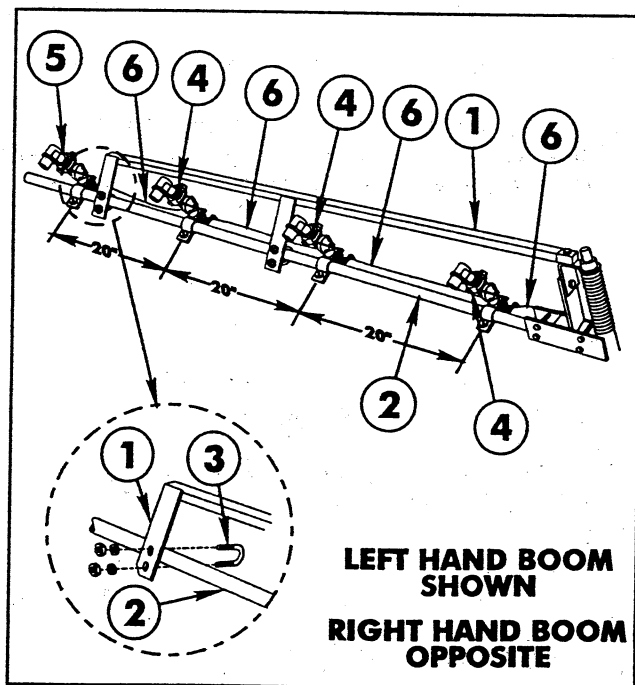

FIG. 23
14. Secure the two plates of the Boom Support Assembly to the Extension Boom Pipe, using two (2) 1/4" U-bolts, four (4) lock nuts and flat washers. See FIG. 23.
17. Attach three double barb and one single barb Nozzle Assemblies on each Extension Boom Pipe as shown in FIG. 23. Nozzles are to be spaced on 20 inch centers. Connect the Nozzle Assemblies with the 3/4" x 19" Jumper Hoses. Secure with hose clamps.